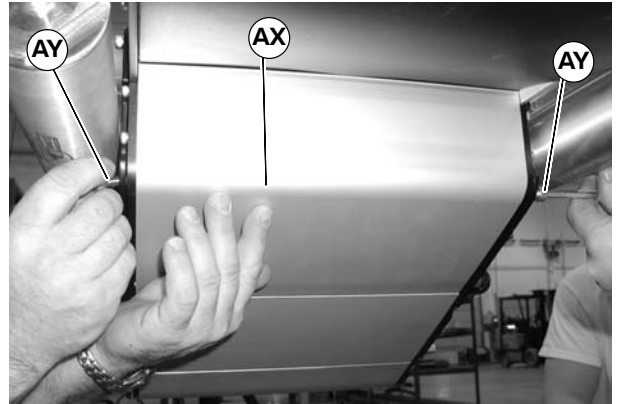

Figure 23
3. Temporarily support idler guard assembly (AX of Figure 23). Remove screws (AY).